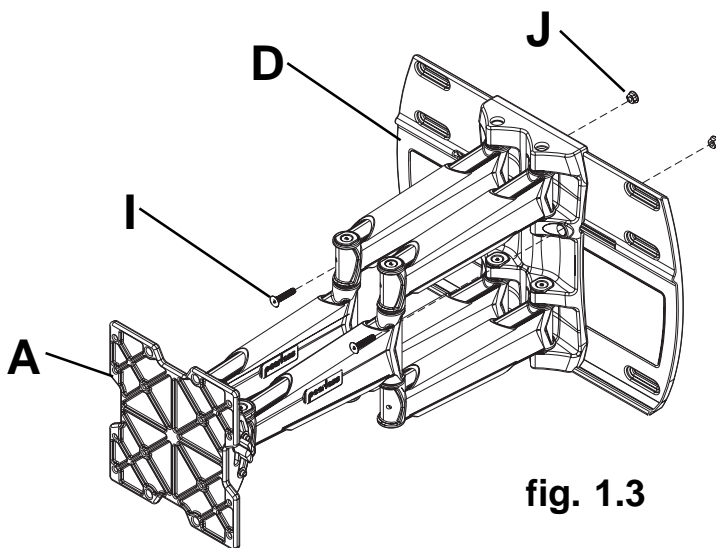

fig. 1.3
- Using 3/16" allen wrench (L), secure arm (A) to wall plate (D) using two 5/16-18 x 1.75" flat head socket screws (I) and two 5/16"-18 nuts (J) as shown in fig. 1.3. **NOTE: BOTH 5/16-18 x 1.75" flat head socket screws (I) must be fastened to wall plate securely using 5/16"-18 nuts (J). Do not adjust arm while screen is attached.**